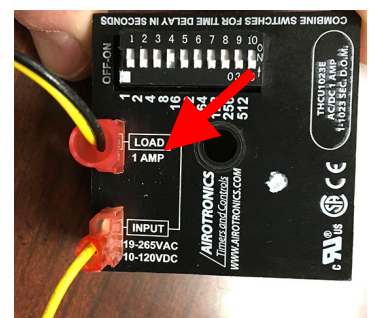

Figure 20
23. Connect the yellow and black wire from the 8-pin connector to the #1 (LOAD) connector on the time delay relay (see Figure 20).